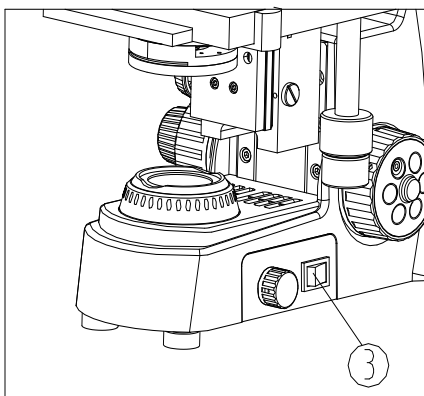

Fig.2
5. For safety, make sure the power switch ③ is at "O" (off) and power it off before replacing the bulb, and wait until the bulb and base cool down completely (see Fig. 2).